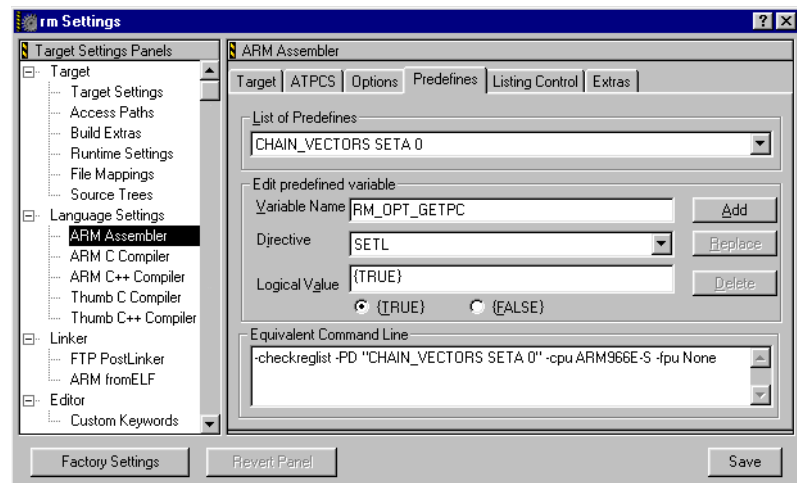

Figure 4-1 Setting build options for the assembler
3. Select the Predefines tab in the ARM Assembler window, as shown in Figure 4-1.